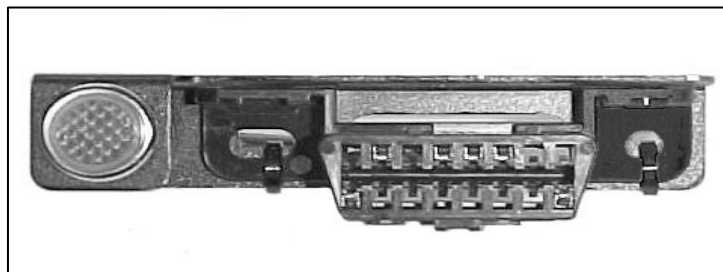

FIGURE 7.1 DLC Connector & Check Engine Light
The wires in this group consist of the diagnostic link connector (DLC) (**SEE FIGURE 7.1**), the check engine light (pre-mounted into a mounting bracket), fuel pump relay, emissions devices (optional) and 6 other wires.
- C. DLC -** The Data Link Connector (**DLC**) **Figure 7.1** is used to communicate with the PCM. The Powertrain On Board Diagnostic (**OBD**) System Check is an organized approach to identifying a problem created by an electronic powertrain control system malfunction. The Powertrain OBD System Check is the starting point for any drivability concern diagnosis. The Powertrain OBD System Check directs the installer to the next logical step in diagnosing a drivability concern. Understanding and using the Powertrain OBD System Check correctly will reduce the diagnostic time and prevent the replacement of good parts. Mount the DLC connector using the bracket that the light is mounted in allowing access to the front of the connector allowing you to see the light while driving. **See Figure 7.1**